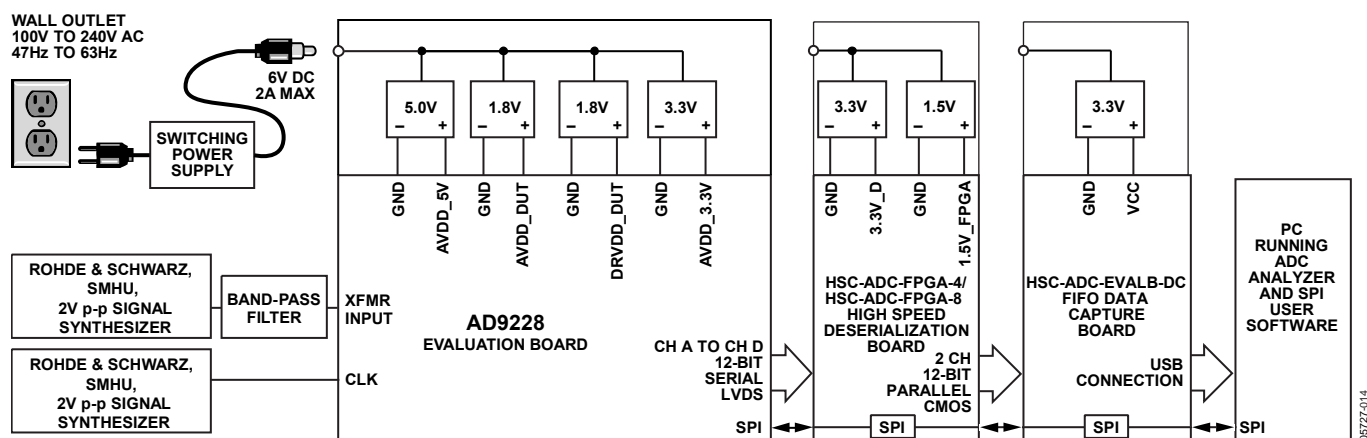
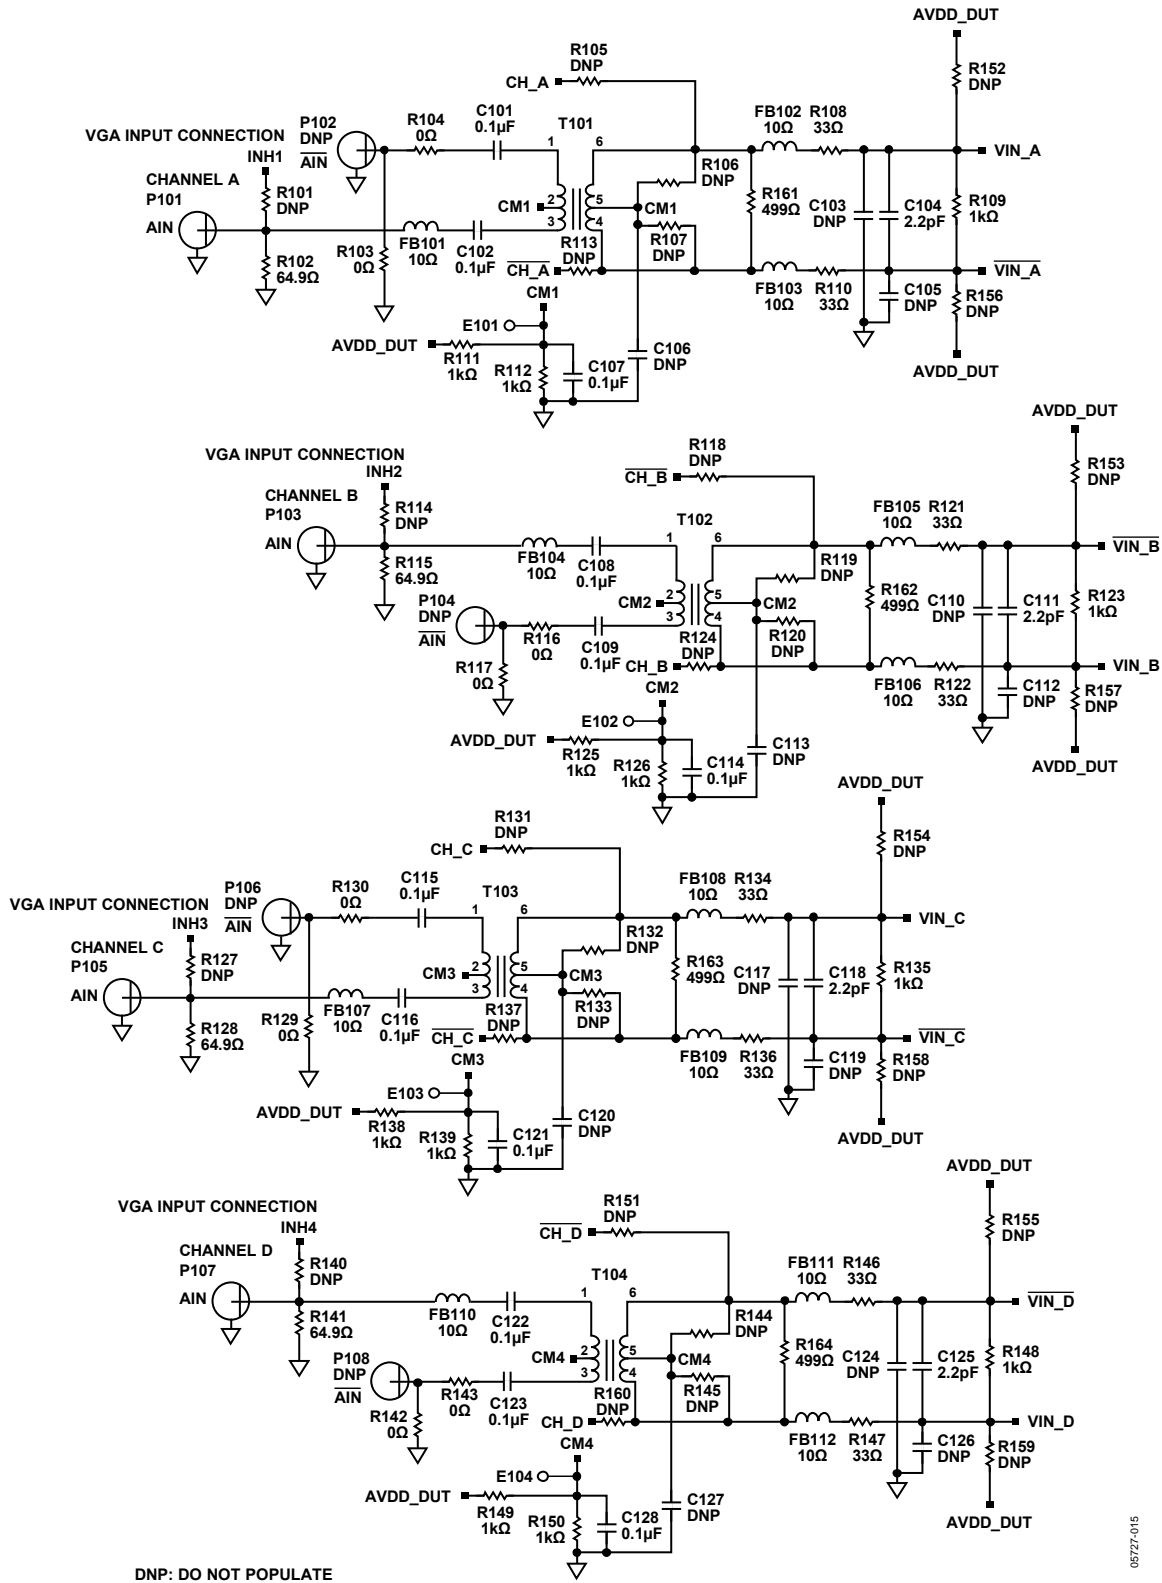
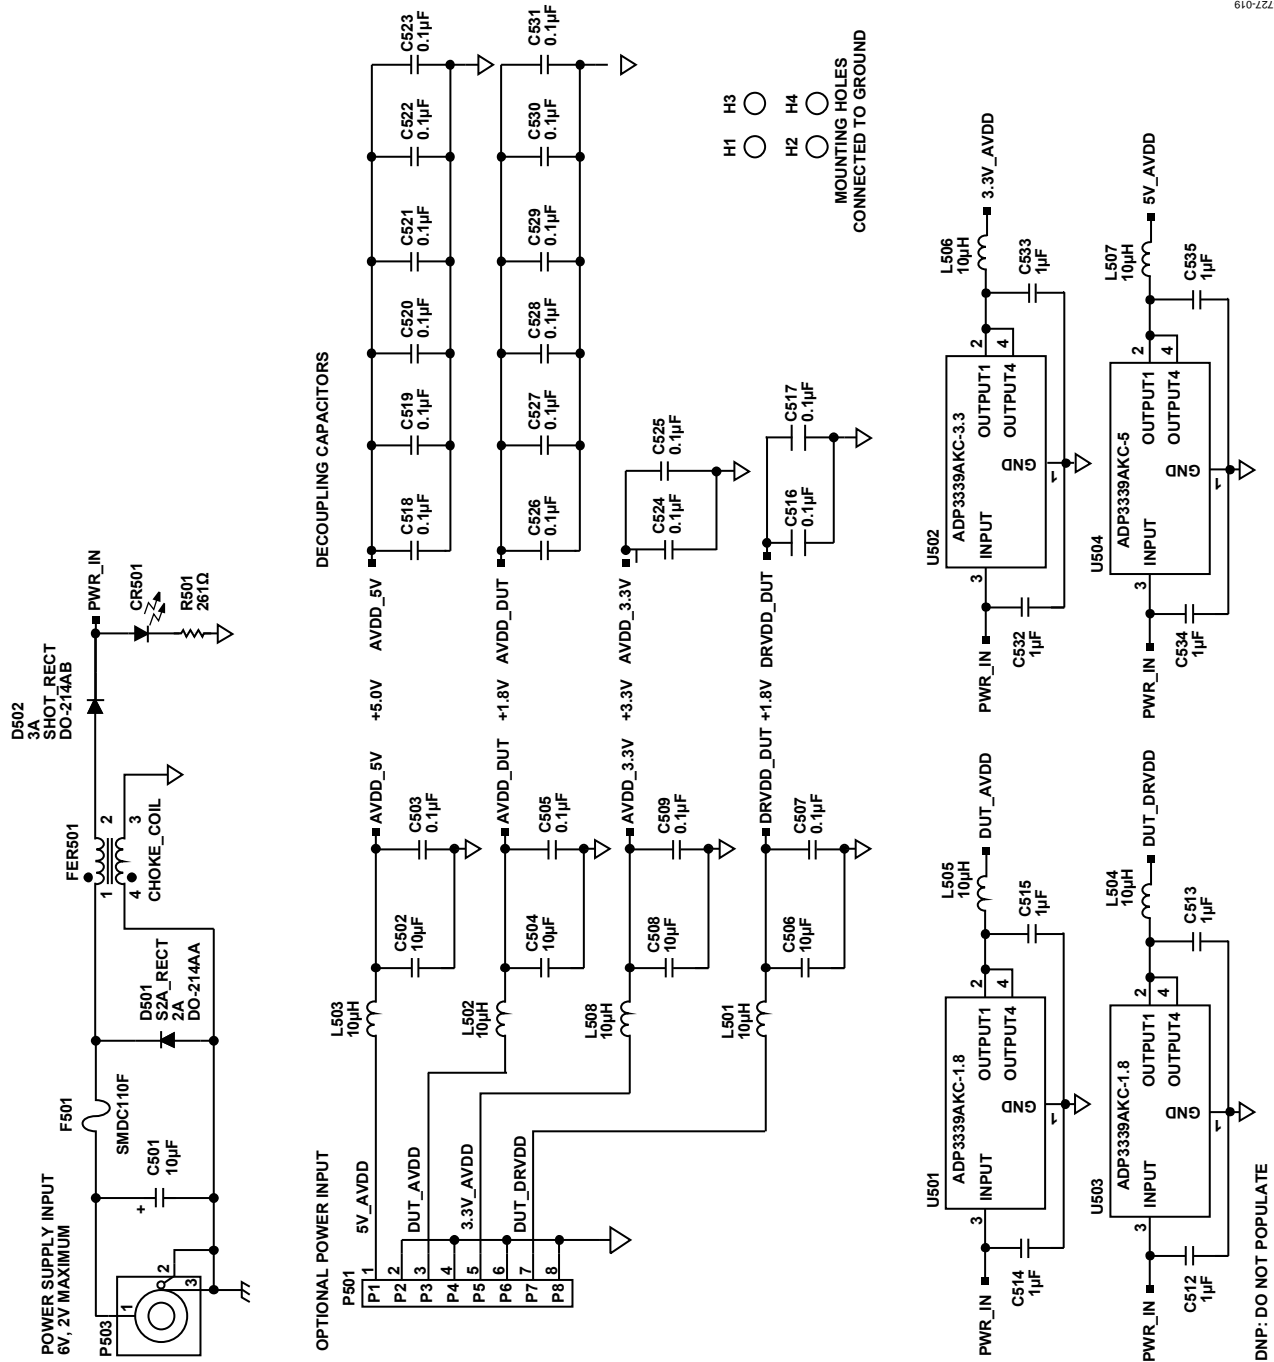

Figure 71. Evaluation Board Connection
Figure 73. Evaluation Board Schematic, DUT Analog Inputs
Figure 77. Evaluation Board Schematic, Power Supply Inputs
The AD9228 evaluation board provides all of the support circuitry required to operate the ADC in its various modes and configurations. The converter can be driven differentially using a transformer (default) or an AD8332 driver. The ADC can also be driven in a single-ended fashion. Separate power pins are provided to isolate the DUT from the drive circuitry of the AD8332. Each input configuration can be selected by changing the connection of various jumpers (see Figure 73 to Figure 77). Figure 71 shows the typical bench characterization setup used to evaluate the ac performance of the AD9228. It is critical that the signal sources used for the analog input and clock have very low phase noise ( $<1$  ps rms jitter) to realize the optimum performance of the converter. Proper filtering of the analog input signal to remove harmonics and lower the integrated or broadband noise at the input is also necessary to achieve the specified noise performance.
See Figure 73 to Figure 81 for the complete schematics and layout diagrams demonstrating the routing and grounding techniques that should be applied at the system level.
- **D + x, D - x:** If an alternative data capture method to the setup shown in Figure 73 is used, optional receiver terminations, R206 to R211, can be installed next to the high speed back-plane connector.